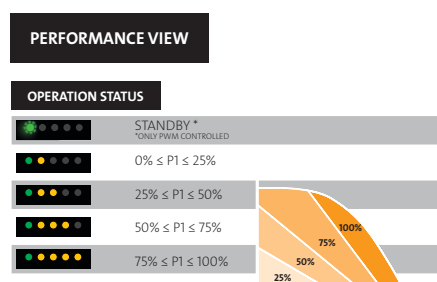

Fig. 35 Operation area according to performance load
- When the circulator is running, LED 1 is green. The four yellow LEDs indicate the current power consumption (P1) as shown in the table below. See fig. 35.